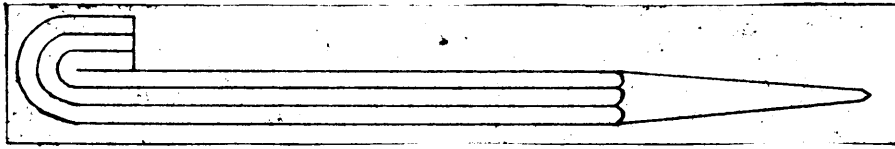

Figure 2.
2. Heat to a lemon color and draw out as shown in Figure 2.
3. Heat opposite end 1" and bend to shape shown in Figure 2. This is used in drawing the puller back in case it gets stuck in the post.